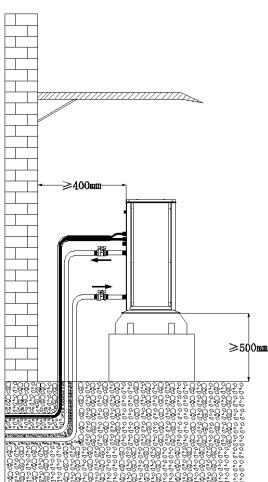

Figure 1
1. Figure 1: The rear side of the unit faces the fence or wall. Maintain a minimum clearance of 400 mm between the unit and the wall, and install the unit at least 500 mm above ground level.